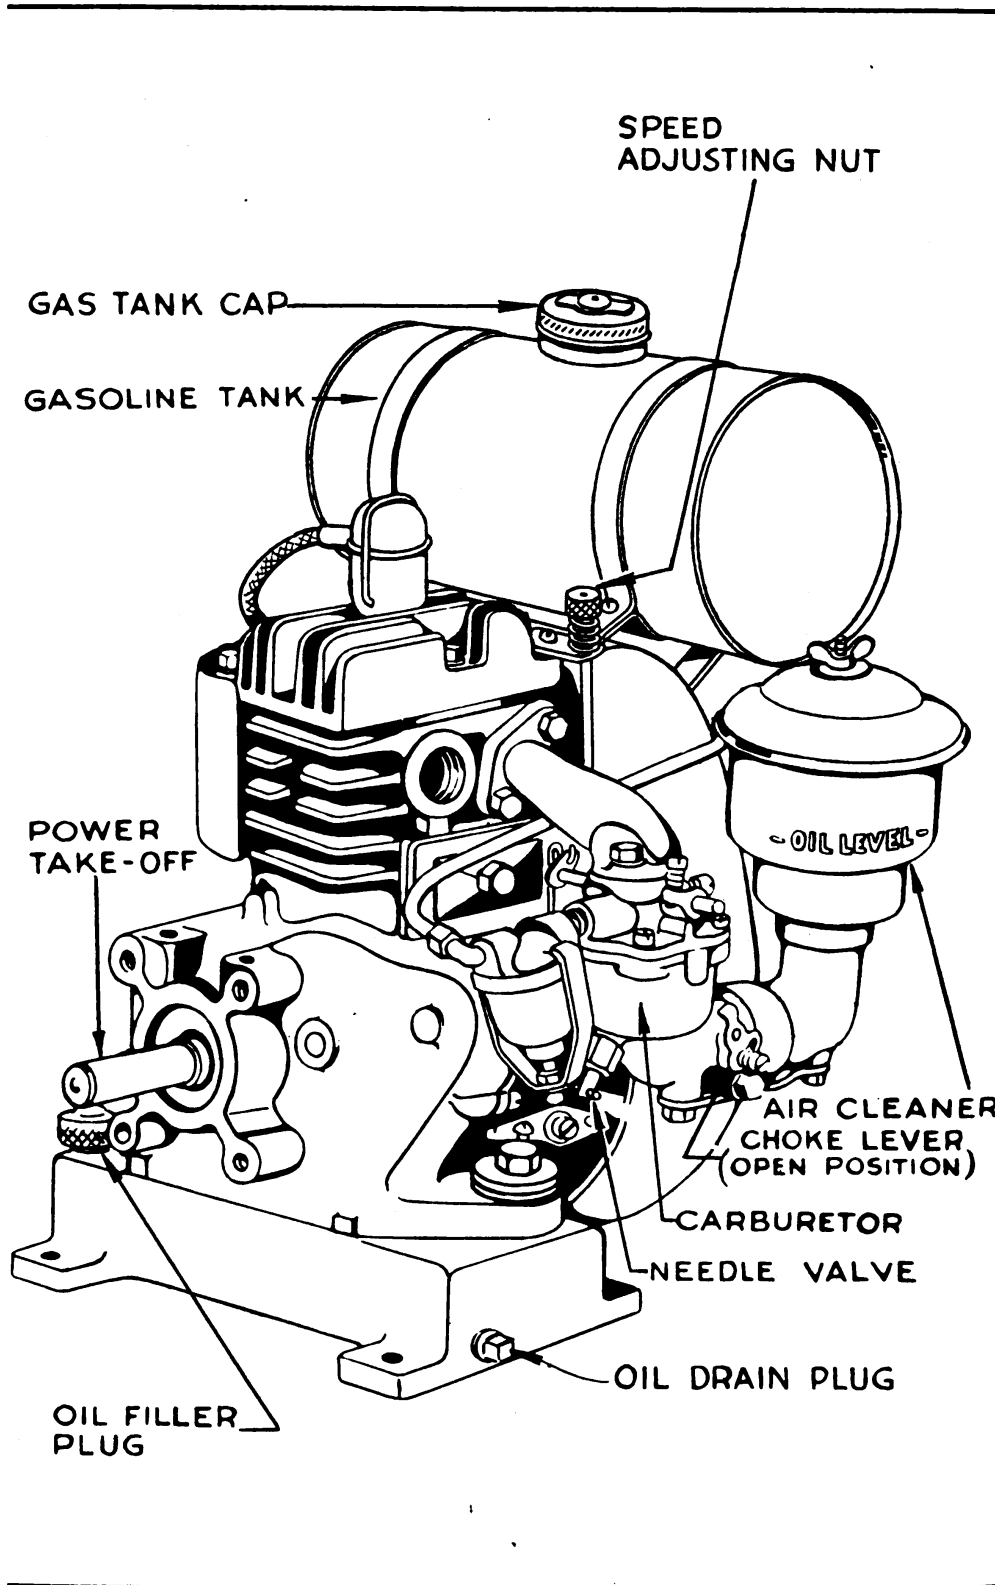
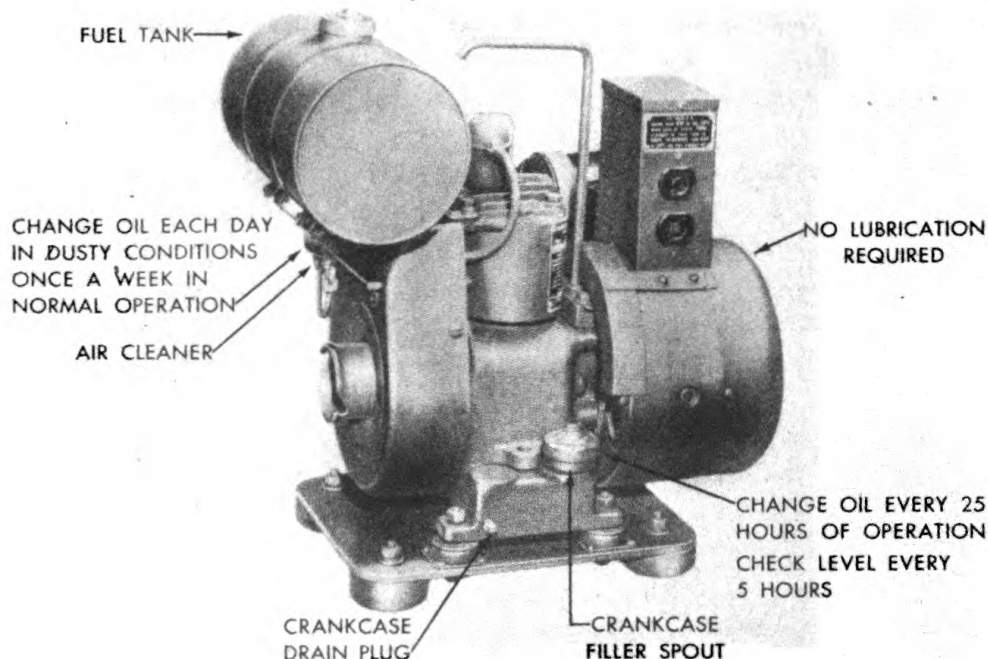

Figure 2.—Engine for Power Unit PE-77-E
Figure 3.—Lubrication
c. Engine.—The engine is a single-cylinder, four-cycle, L-head, air-cooled, rope-starting gasoline engine (fig. 2).
6. **PREPARATION FOR USE.**—*a.* Remove the oil filler cap which is painted blue and located on the top of the engine base (fig. 2). and fill the crankcase of the engine with a high-grade lubricating oil (fig. 3 for proper oil).
7. **OPERATION.**—*a. Starting.*—(1) Open gasoline shut-off valve (fig. 2) on top of the gasoline tank (at the bottom of the gasoline tank on PE-77-E) by turning valve to the left and allowing the carburetor float chamber to fill up. Completely close carburetor choke by turning choke lever to the left (fig. 2). If engine is hot it may be necessary to close choke.
(2) Insert the knotted end of the starter rope in the notch of the starter pulley and wind the rope clockwise around the pulley. Crank the engine a few times to prime it. After the engine has been primed, open choke about half-way and repeat the cranking operation to start the engine. As the engine warms up gradually, open choke by turning the choke lever (fig. 2) toward the right until the engine operates smoothly with the choke wide open.
(3) If it is necessary to keep the choke partially closed for several minutes before the engine runs smoothly, the carburetor is set too lean and the needle valve located in the lower part of the carburetor (fig. 2, 8 or 9) should be opened slightly by turning to the left (counter clockwise).
13. LUBRICATION.—*a. General.*—Correct lubrication of the engine is important. Lubrication data must be observed. The chart shown in figure 3 gives the proper oil to use at various temperatures and lubrication points. Lubrication of the generator is not required.
b. Crankcase.—(1) Check the oil level in the crankcase every 4 hours of service or every gasoline refill period. Add sufficient oil to bring the level up even with the top of the (blue) oil filler cap opening.